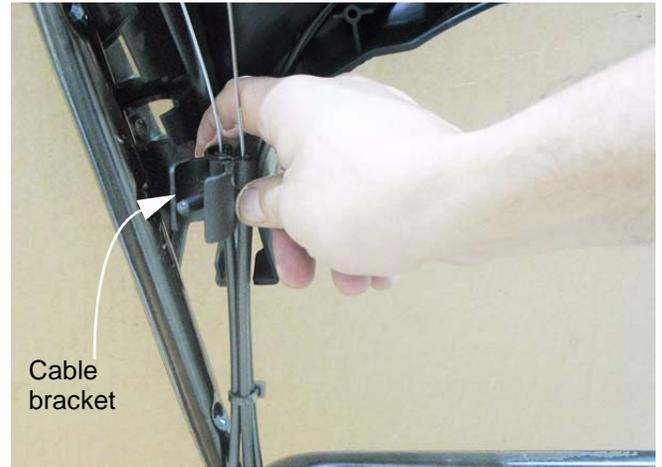

Figure 5.21
7. Pry the cable bracket loose from the upper handlebar. See Figure 5.21.